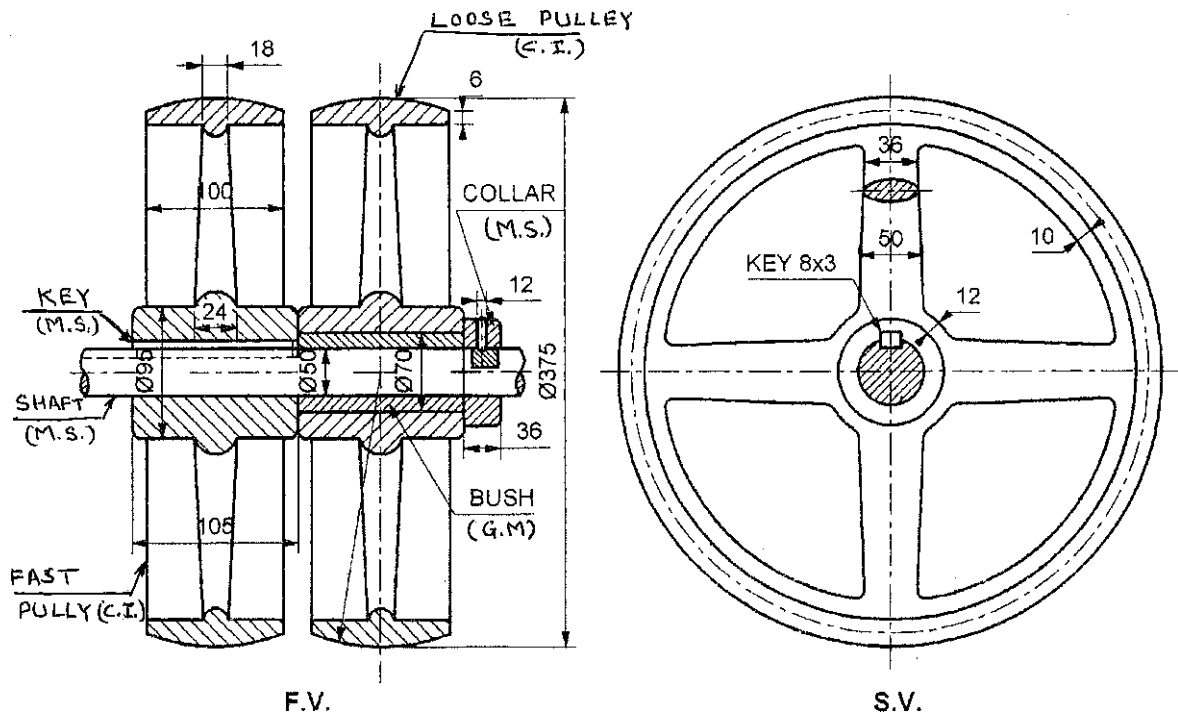

Figure 5
b) Figure 5 shows the sectional front view and side view of a fast and loose pulley. Draw the part drawings of the components.